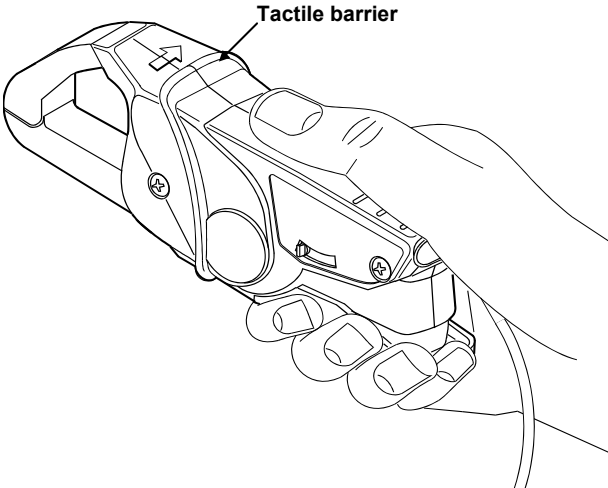

Figure 1. Safely holding the Current Clamp
- Do not hold the Current Clamp anywhere beyond the tactile barrier, see Figure 1.